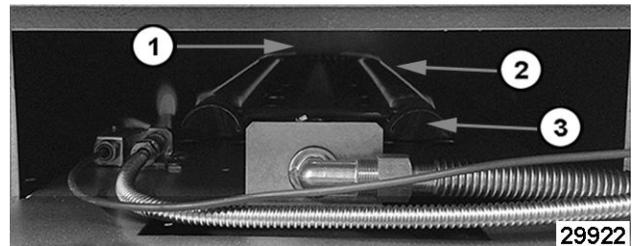

Fig. 115
4. Observe burner flame. The flame should be approximately 1/8" and stable on each port as shown in Fig. 115.
By-Pass Flame shown in Fig. 115